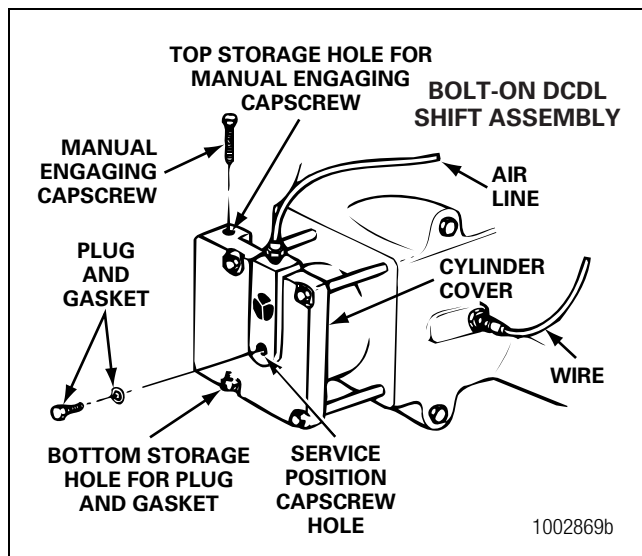
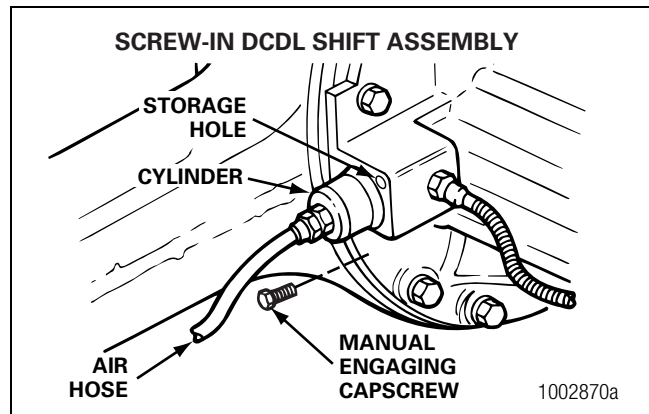

Figure 6.17
Figure 6.19
1. Install the washer and plug into the hole for the sensor switch. Tighten the plug to 45-55 lb-ft (60-74 N•m). Figure 6.17.
9. Install the manual engaging capscrew into the DCDL storage hole in the bolt-on or the screw-in DCDL assembly. Figure 6.17 and Figure 6.19. The sealing gasket must be under the head of the capscrew.
Install the short plug and gasket into the service position hole in the center of the DCDL. Figure 6.17.
- B. On a screw-in DCDL shift assembly, install the short screw or plug into the storage hole located in the top of the screw-in DCDL shift assembly. Figure 6.19.